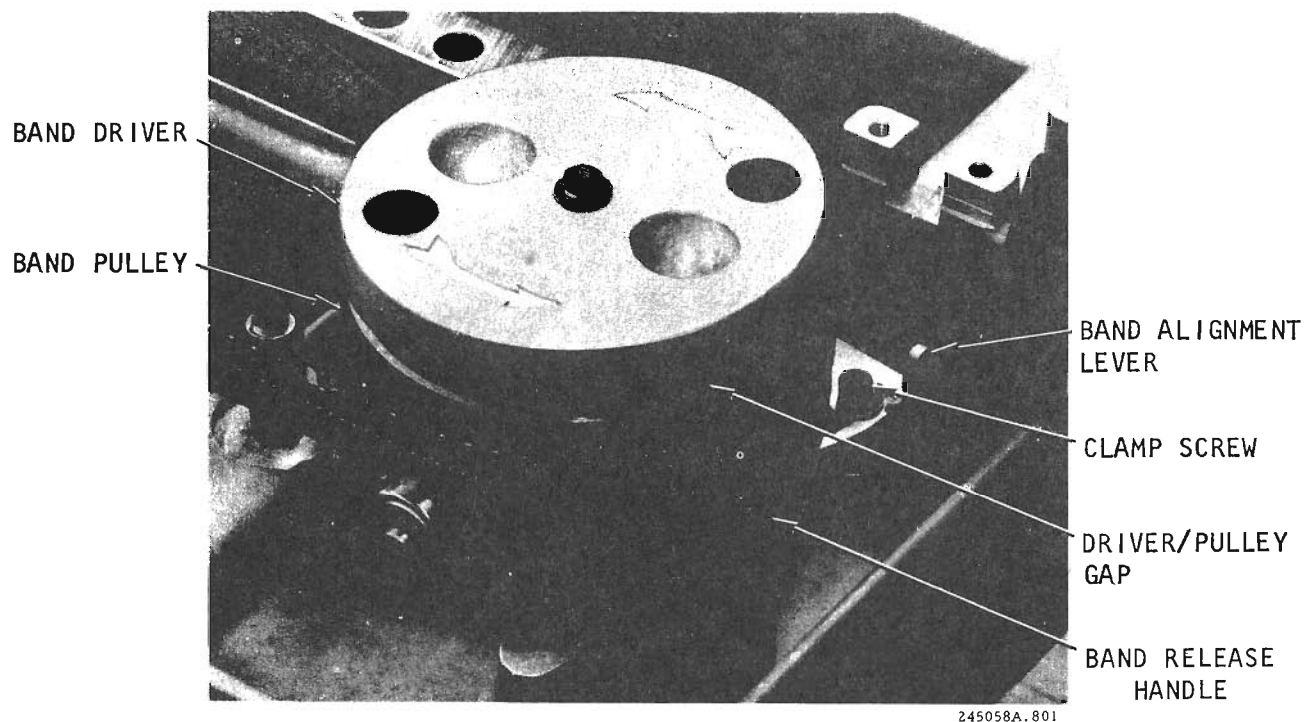

Figure 6-1. Band Alignment
- e. Check the vertical float on both band drive pulleys. The pulleys should be free to move vertically within their limits in both directions. Total travel should be approximately 6.5mm (0.25 inch). If no adjustment has been done to the band drive components and float is present in both directions from the tracking position, then no adjustment should be attempted. Verify the existence of float utilizing all bands (if more than one) used on the printer (see figure 6-1).